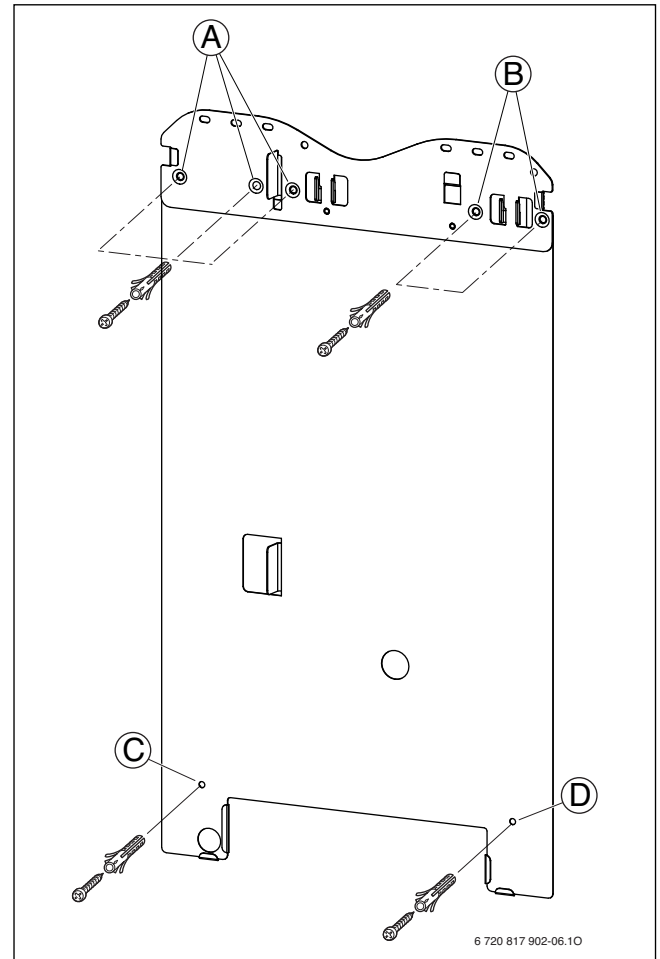

Fig. 14 Mounting plate
- ▶ Push lever on slider up until catch [1] rests on metal bracket [2] (→ Fig. 14).